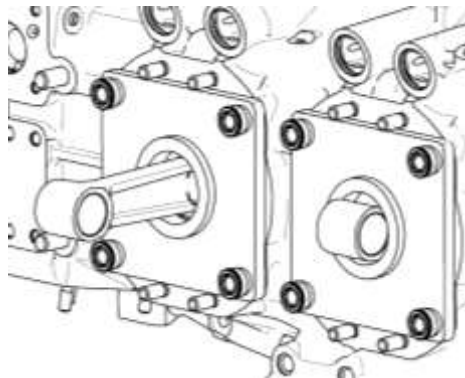

Figure 96
(10) Lubricate the threads of each crankcase thru-stud with the specified lubricant identified in the latest revision of Service Instruction No. SI-1029.
(11) Install the Torque Hold-Down Plate (ST-222, Figure 96) on the cylinder pads over the thru-studs.